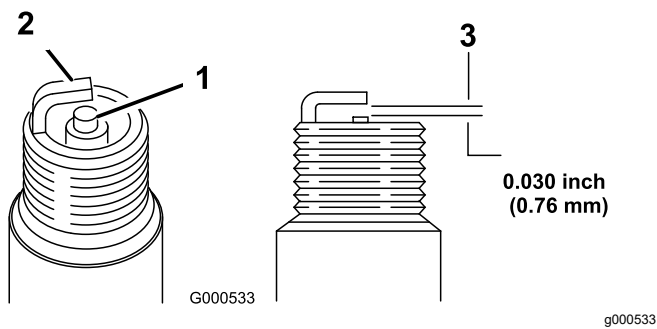

Figure 30
5. Set the gap on the plug to 0.76 mm (0.030 inch); refer to Figure 30.